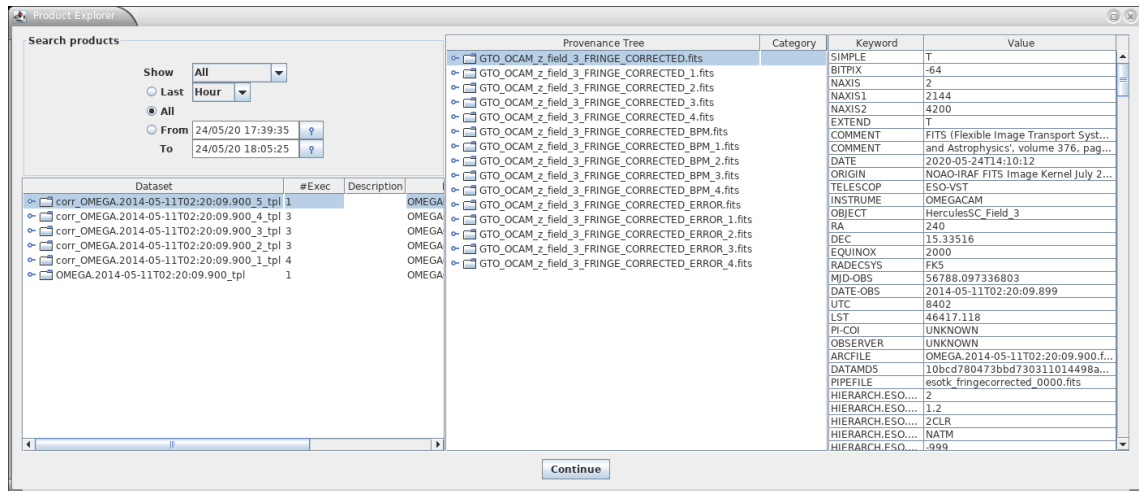

Figure 6.4: The Product Explorer shows all datasets reduced in previous executions together with the full reduction chain for all the pipeline products..
9. Once the reduction of all datasets has finished, a pop-up window called *Product Explorer* will appear, showing the datasets which have been reduced together with the list of final products. This actor allows the user to inspect the final data products, as well as to search and inspect the input data used to create any of the products of the workflow. Figure 6.4 shows the *Product Explorer* window. A full description of the *Product Explorer* will be presented in Section 8.2.4.
The ProductExplorer is an interactive component in the `esoreflex` workflow whose main purpose is to list the final products with the associated reduction tree for each dataset and for each reduction attempt (see Fig. 6.4).
The left window of the ProductExplorer GUI shows the executions for all the datasets (see Fig. 6.4). Once you click on a dataset, you get the list of reduction attempts. Green and red flags identify successful or unsuccessful reductions. Each reduction is linked to the “Description” tag assigned in the “Select Dataset” window.